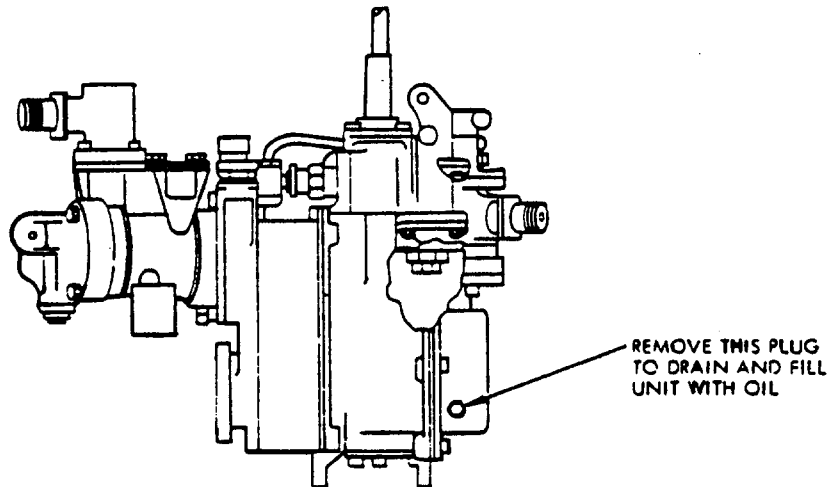

Figure 201 - Servicing Pneumatic Actuator Assembly
- (1) Remove lower aft nacelle access panels to gain access to pneumatic actuator.
- (2) Remove oil fill/drain port cap from actuator. (See Figure 201).
- (3) Locally fabricate a dipstick with a 1/16-inch diameter drill rod and mark it from end at 1-1/16 and 1-1/8 inch depths.
- (4) Insert dipstick into open fill/drain port. Remove and observe oil level indicated on dipstick. If actuator is properly serviced with 75 cc's of engine oil (MIL-L-7808), oil level should fall between two marks (1-1/16 and 1-1/8 inch) on dipstick. Add oil as necessary.
- (5) Reinstall oil fill/drain port cap on actuator.
- (6) Reinstall access panels.